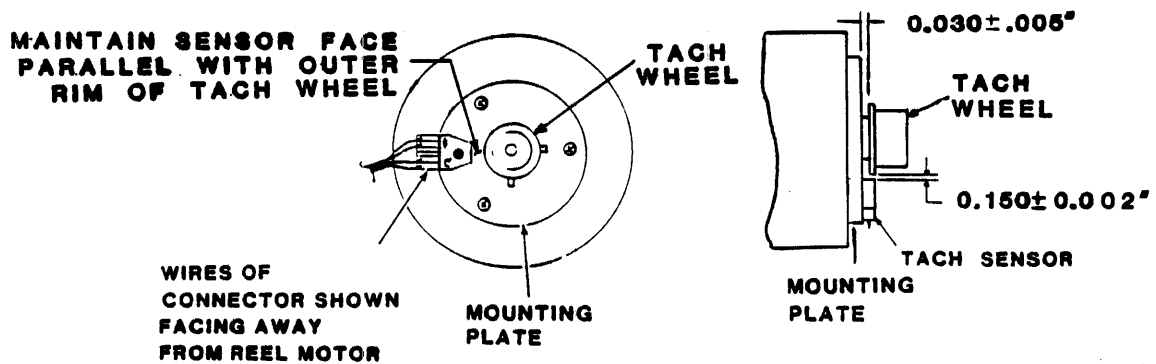

Figure 6-14. TACH/SENSOR ASSEMBLY/ADJUSTMENTS
2. Assemble sensor and tach wheel (from steps 6 and 7 of Removal) onto rear of motor mounting plate and shaft as shown in Figure 6-14 and adjust per tolerance requirements listed in the Supply Motor Tach and Sensor Procedures.
5. Attach W3P5 connector to tach sensor pins (Figure 6-14).
### Replacement (Refer to Figure 6-14)